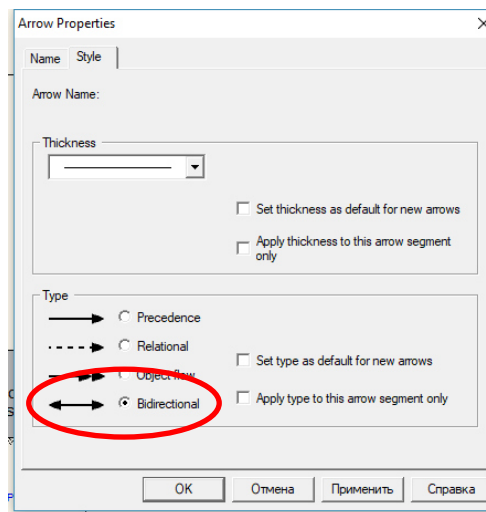

Fig. 5.11. The Arrow Style dialog box
3. Select the option **Bidirectional** in the **Arrow Properties** dialog box (fig. 5.11).